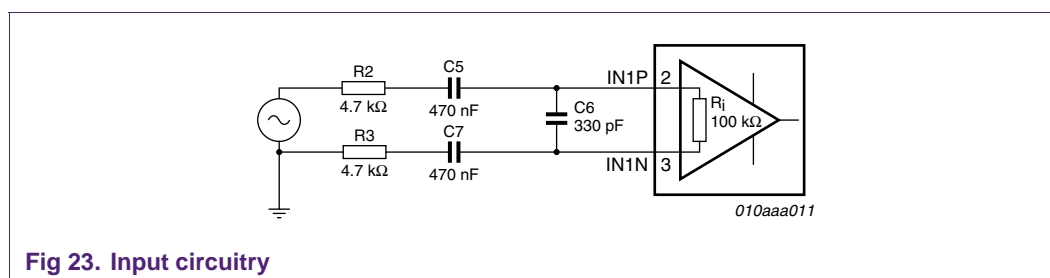

Fig 23. Input circuitry
The input signal is applied to the differential input of the TDA8932B/33(B) by means of AC-couple capacitors (see Figure 23). AC-couple capacitors are required for DC-blocking because the inputs (IN1P, IN1N, IN2P and IN2N) are biased at a voltage level of approximately +2.2 V (with respect to VSS) when operating from an asymmetrical supply. At symmetrical supply, the inputs are biased at a voltage level of approximately -2.2 V (with respect to HVPREF). The bias voltage is equal to the INREF voltage (pin 12).